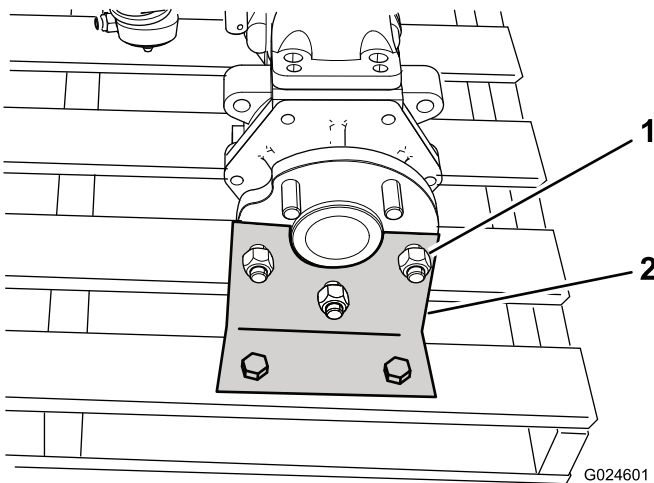

Figure 10
26. Remove the lug nuts securing the axle wheel hubs to the shipping brackets (Figure 10).
27. Carefully remove the shipping brackets from the crate (Figure 10).